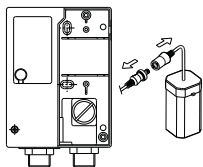

Fig. 4.4
4.4 Remove Battery Housing (Fig. 4.4)